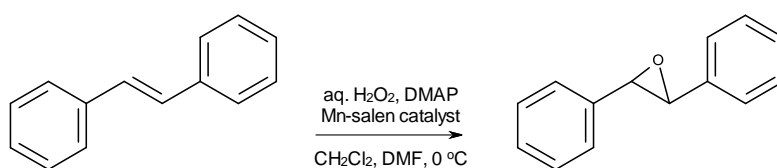

Figure 6: Epoxidation of stilbene with hydrogen peroxide using a Mn-salen catalyst (e.g. Jacobsen's catalyst)⁷
- Epoxidation using a Mn-salen catalyst and hydrogen peroxide or other alternative conditions examined (see Figure 6)
An alternative method has been reported by Liu and Nocera⁷ using Jacobsen's catalyst in the presence of hydrogen peroxide to perform the epoxidation of alkenes (Figure 6). This procedure is reported to employ "green" methods through the use of this simple and cheap oxidising agent which should significantly improve the atom economy.